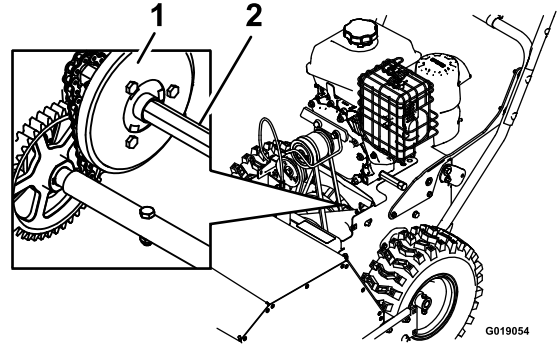

Figure 20
4. Dip a long, clean, small-tipped paint brush in automotive engine oil and lightly lubricate the hex shaft (Figure 20).
Important: Do not get oil on the rubber wheel or the aluminum friction-drive plate as the traction drive will slip (Figure 20).